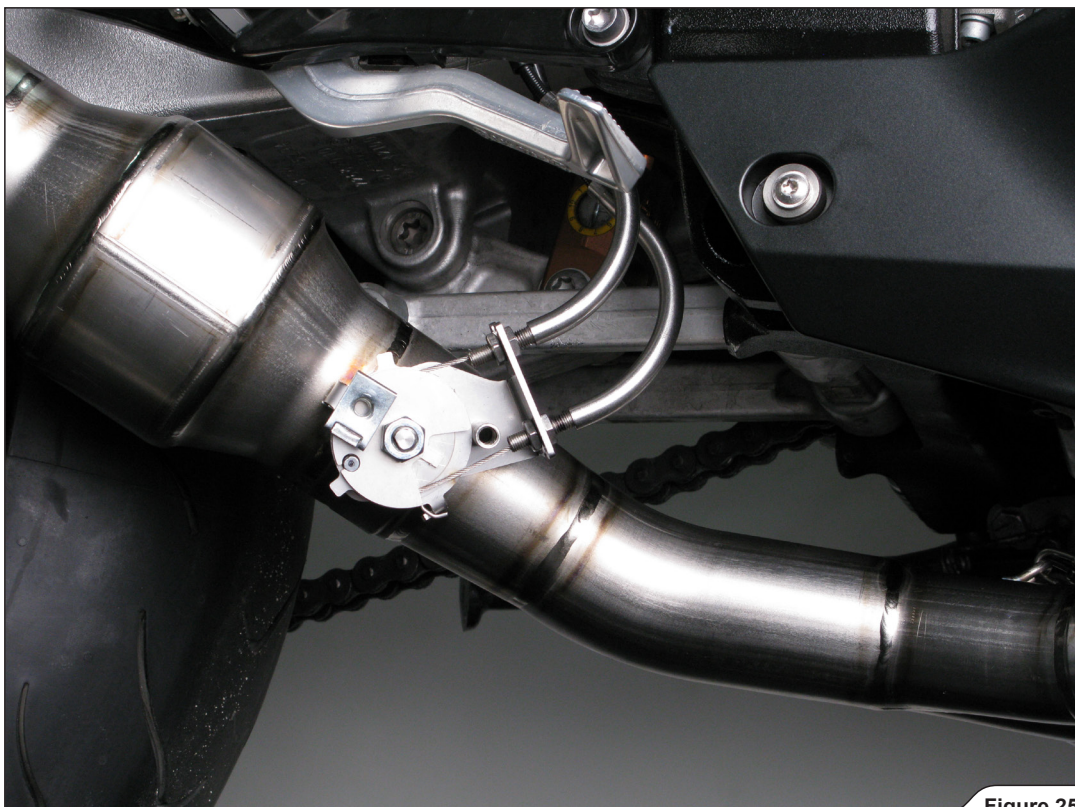

Figure 25
9. **For street legal Racing and Evolution only:** direct the exhaust valve cables to the Akrapovič exhaust valve (**Figure 25**).